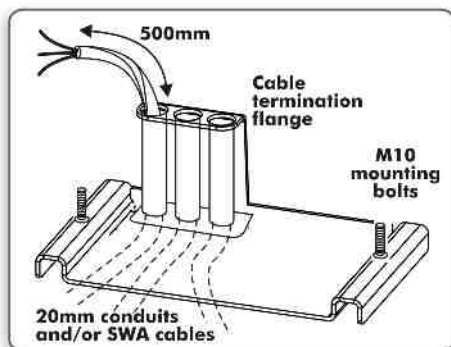

FIGURE 13
2. The cable conduits or SWA cables glands should terminate onto the cable termination flange provided in the foundation plate, as depicted in Figure 13.